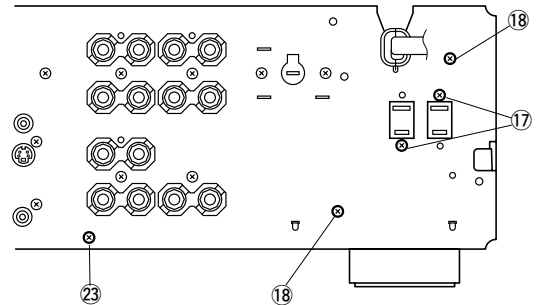

Fig. 7
- Remove the AM/FM Tuner, Operation (5)/(3)/(2) P.C.B. and Input (1)/(2) P.C.B.
- Remove 6 screws (17, 18 and 19) and then remove the Main (5)/Power (1) P.C.B. in Fig. 7 and 8.
- Remove 4 screws (21, 22 and 23) and then remove the Main Chassis in Fig. 7 and 8.